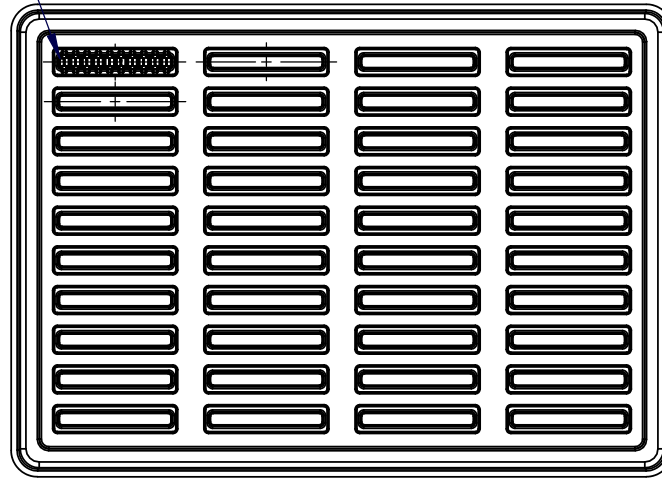

FIGURE 1
3. TRAY SIZE IS APPROXIMATELY 10 X 14 X 0.6 INCHES (254 X 355.6 X 15.2 mm), INCLUDING TOP COVER AND BOTTOM TRAY. ADAPTERS ARE ARRANGED AS SHOWN IN FIGURE 1.